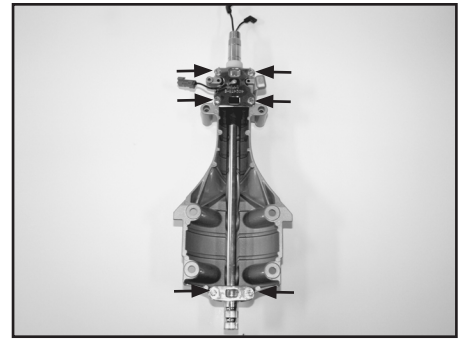

Figure 1
5. Remove the column assembly from the truck at the (4) bolt locations that secure the aluminum die cast bracket to the dash bracket. Reference the vehicles owners manual or Freightliner service literature for instructions.
6. If the column assembly is equipped with a mechanical shift mechanism, remove the PRNDL display and bracket from the aluminum die cast bracket by removing (2) bolts. The PRNDL display and bracket should remain connected to the column assembly by the metal cable. Do not disconnect the cable.
7. Remove the metal bracket that secures the upper and lower shaft bearings to the aluminum die cast housing. Columns equipped with a mechanical shift mechanism includes (1) large metal bracket that retains both upper and lower bearing. Other columns include (2) smaller brackets for each bearing. A total of (6) bolts are to be removed to allow access to both the upper and lower bearings. Figure 1